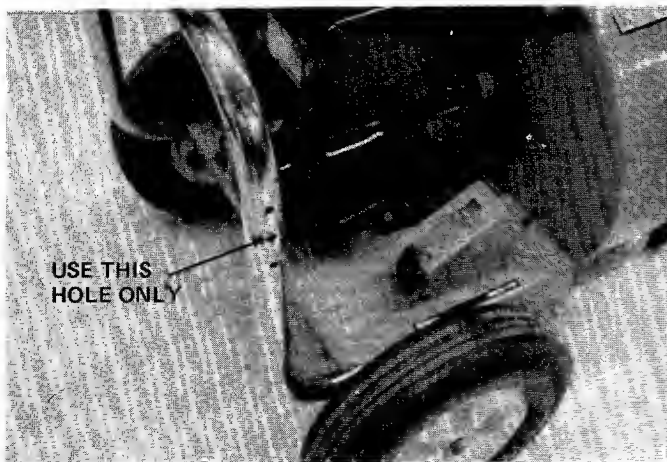

FIGURE 3.
2. Figure 3 shows lower handle. Upper handle mounts in center hole only.